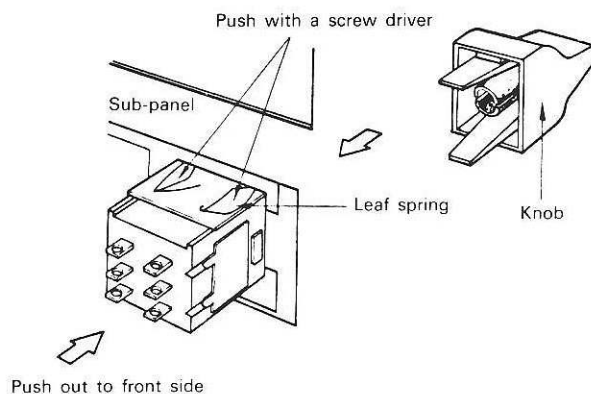

Fig. 18
- 3) Extract the spring plate of the paddel switch up to the subpanel front, while pushing its tip with a screwdriver (refer to **Fig. 18**).
- 4) When the normal paddel switch is inserted into the subpanel from the front, it is fixed to the subpanel by means of the spring plate. To replace the knob of the paddel switch, insert the tip of a thin driver into a gap of the switch and detach the knob by utilizing the principle of the lever and then insert a normal knob (refer to **Fig. 18**).